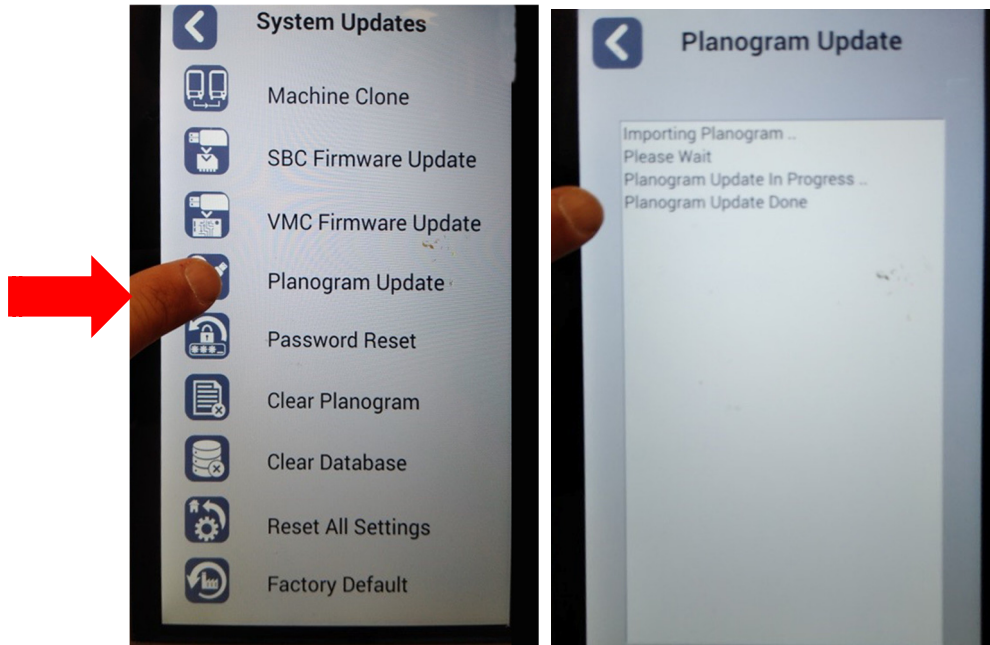

Figure 55
6. Select **Planogram Update**. (See Figure 55.)